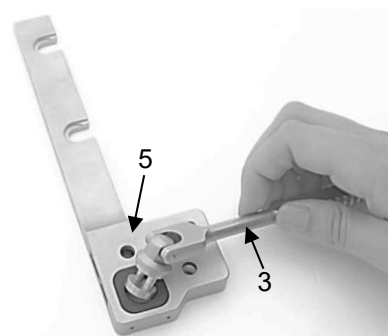

Fig. 7
First insert the drive lever (3) into the recess provided in the box (5) (Fig. 7).